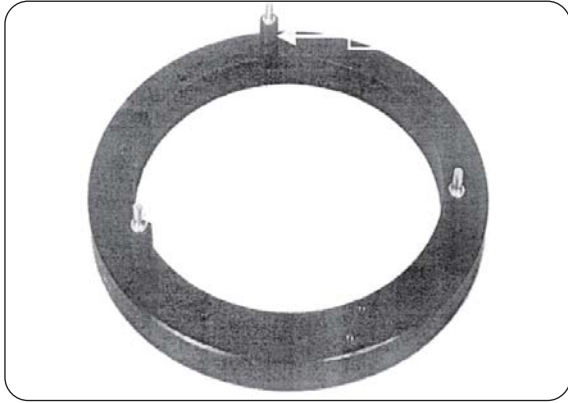

Fig. 11
9. Keep the pressure plate fixture accordingly as shown in fig.11.